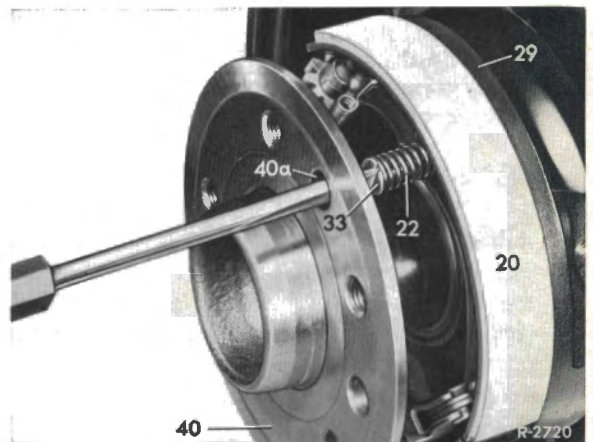

Fig. 42-28/3
4. Turn the rear axle shaft (40) until the large assembly hole (40a) in the rear axle shaft points toward one of the retaining pins (33). Compress the pressure spring (22) with a hexagon socket wrench, turn the retaining pin 90° and remove the spring together with the retaining spring through the assembly hole in the rear axle shaft (Fig. 42-28/3).